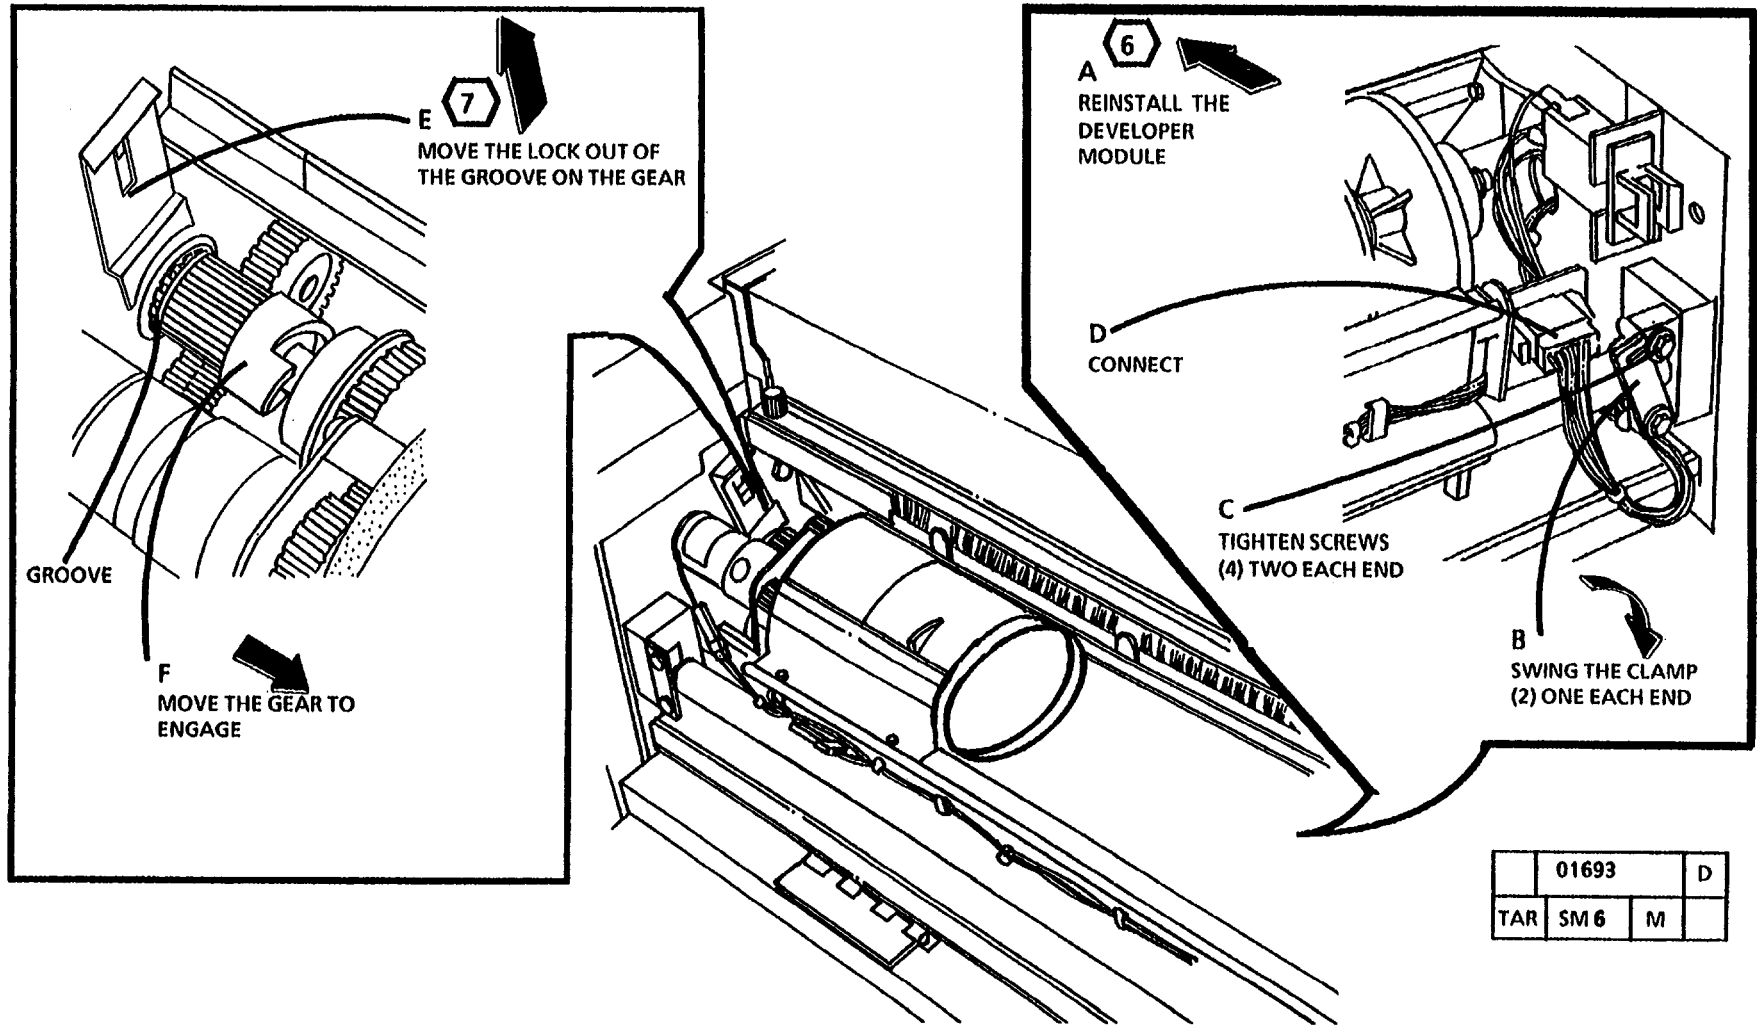

Figure 15. Reinstall the Developer Module
23. (Figure 15): Reinstall the Developer Module.